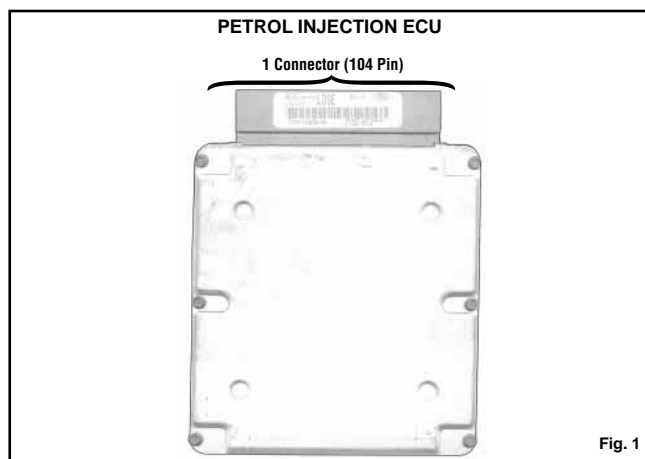

Fig. 1
- Petrol injection ECU version: see figures 1 and 2 page 2